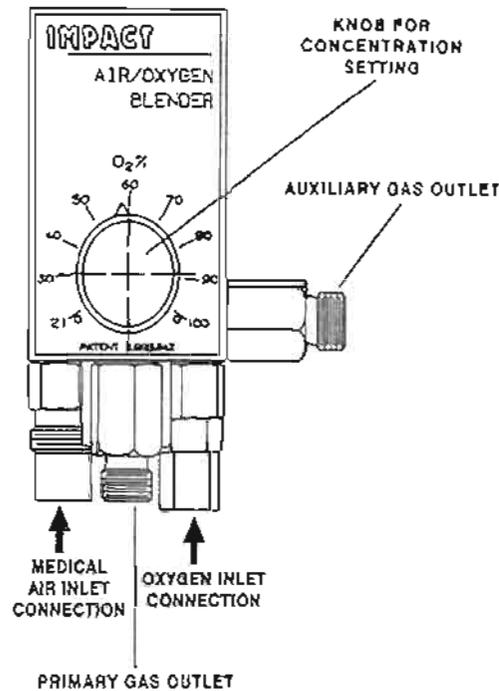

Figure 3-1. Blender.
- a. An air/oxygen blender (fig 3-1) is provided for use with the ventilator as an additional authorization list item (app F).